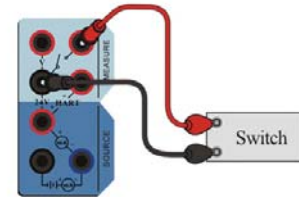

Figure 3-10 Switch test
2. Connection: Complete the electrical connection as shown in Figure 3-10.